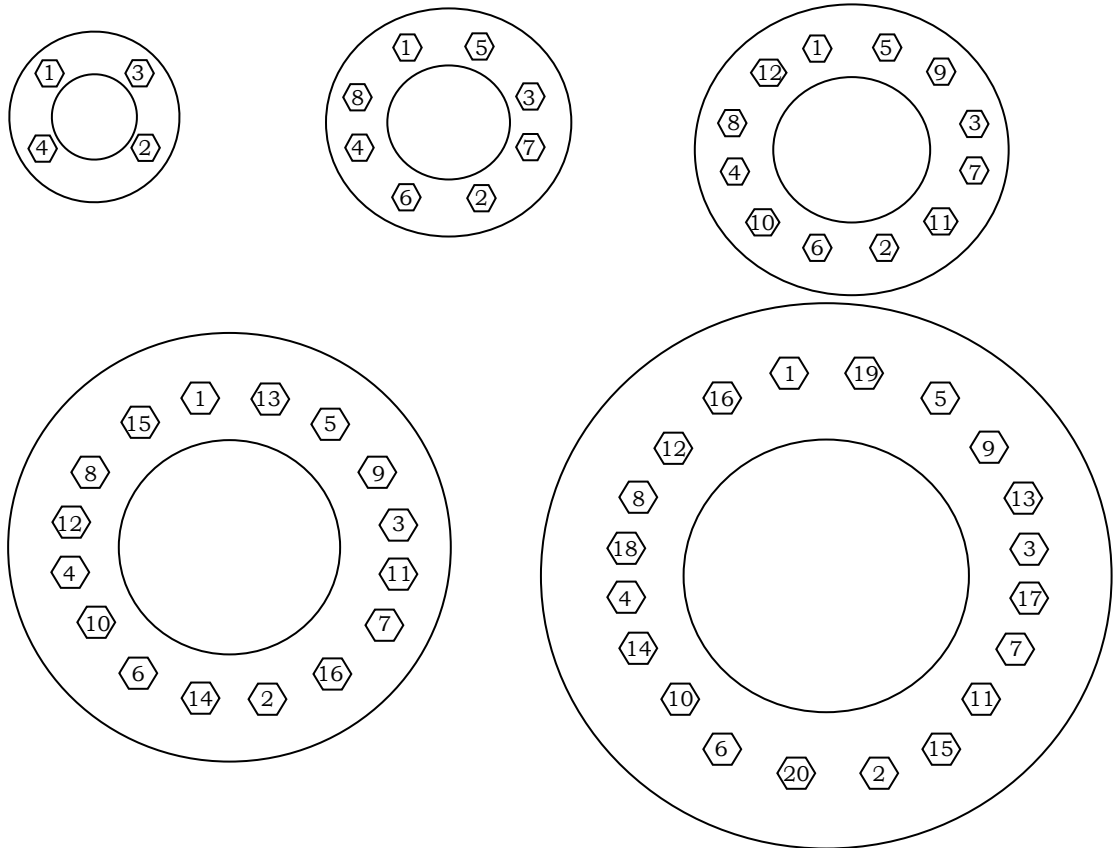

FIGURE 3. Bolt Tightening Sequence
- Step 4. Assemble the valve to the pipe using properly sized bolts for application. See Tables 5 and 6 below. Progressively tighten to the torque value recommended by the seal gasket provider. See Figure 3 for recommended method.
Leakage through the bonnet joint may be corrected by tightening bonnet bolts. Reference Table 7 below for recommended torque values depending on bolt size. See Figure 3 for recommended tightening sequence. If tightening does not correct leakage, replacement of graphite gasket will be required.